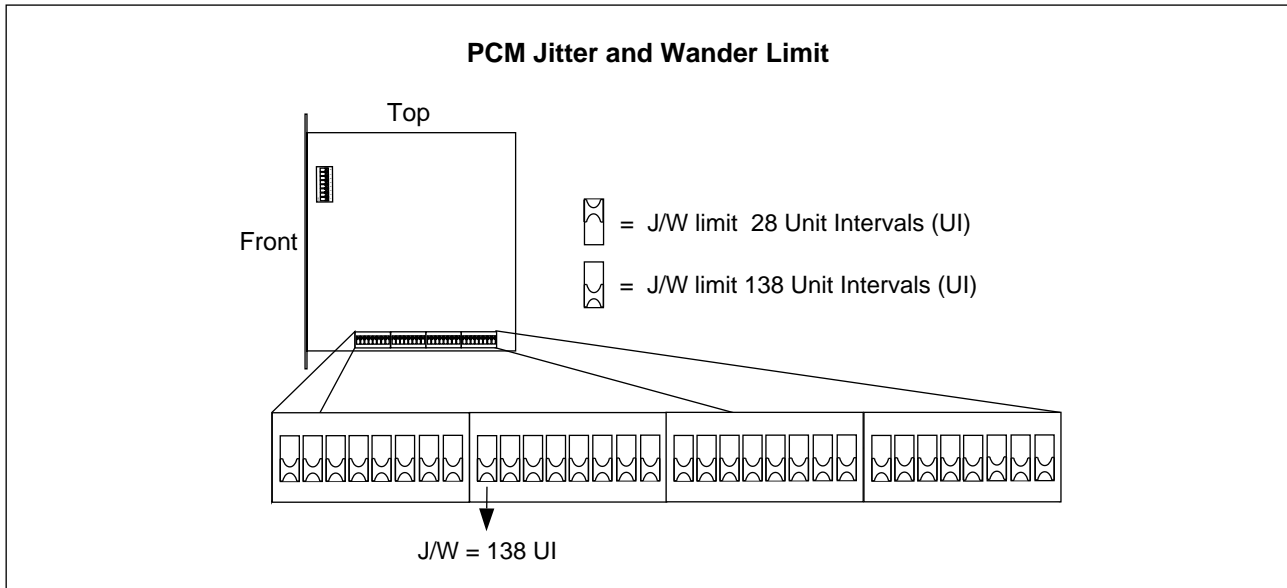

Figure 4-31. Setting the PCM Line Jitter and Wander Limit
13. Set the jitter and wander limit for the PCM line for 138 Unit Intervals (UI), as shown in Figure 4-31 on page 4-48 in accordance with the *Configuration Data* in the *Site Installation Documentation*.